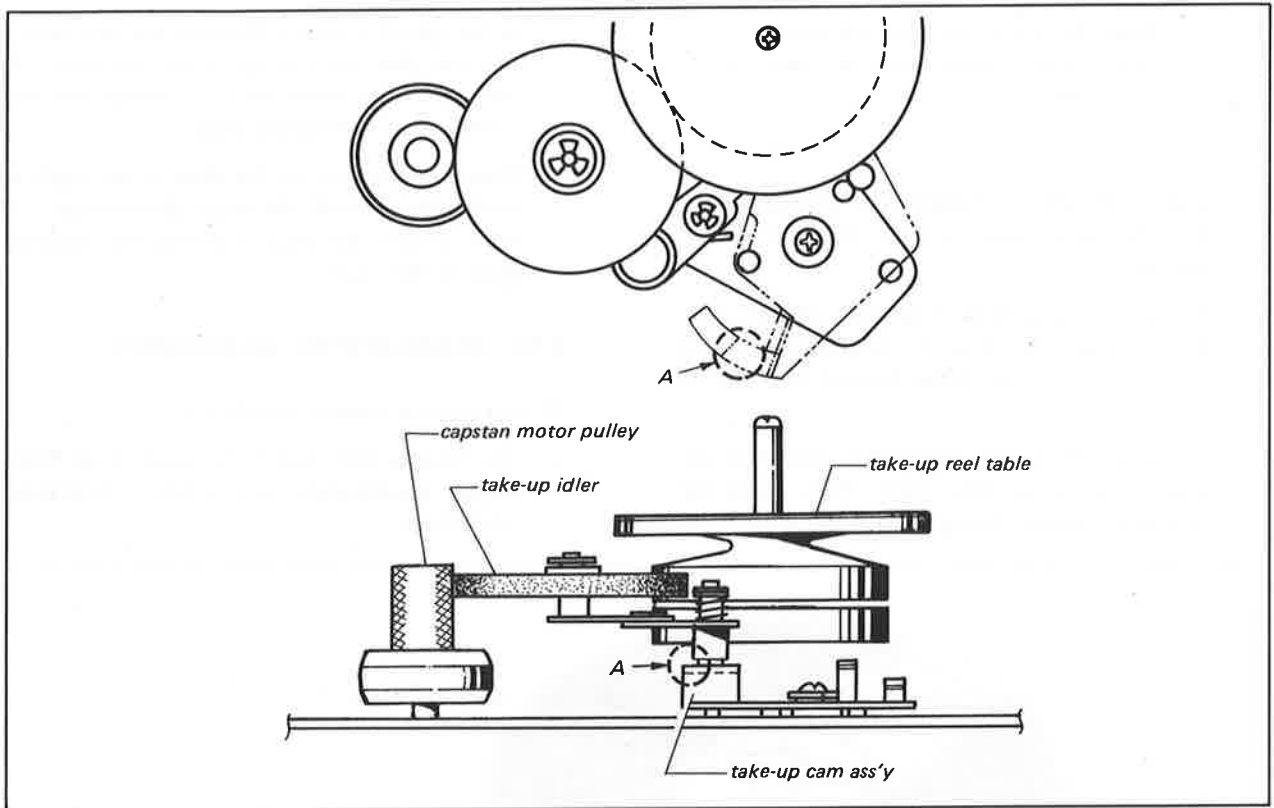

Fig. 4-12. Take-up idler height
2. If this condition does not exist, place the Function Lever in the FORWARD position. Bend Finger A with a pair of pliers as shown in Fig. 4-12. to obtain the correct Take-Up Idler height.